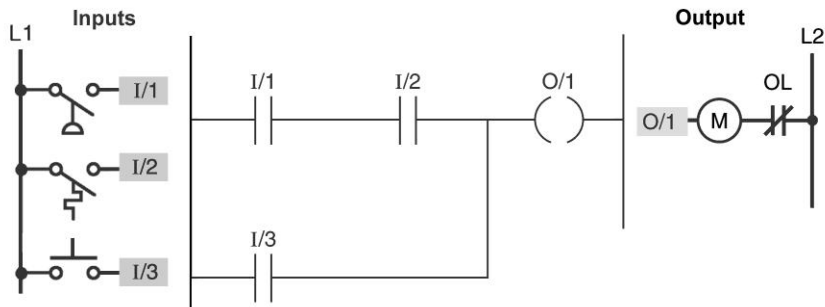

Figure 1-4 Diagram for question 25.
- 25-1. The diagram of Figure 1-4 is that of a(n) 25-1.____